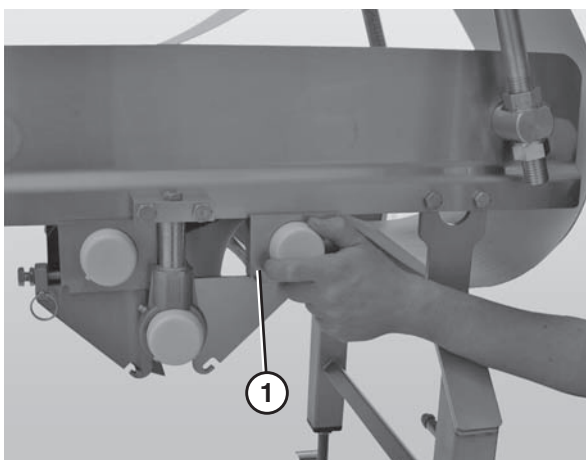

Figure 17
- Slide the tension spindle assembly (**Figure 17, item 1**) out of the housing.
- Slide the tension spindle assemblies (**Figure 17, item 1**) back into the housing.